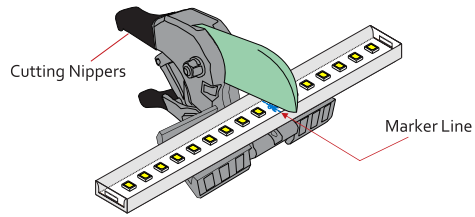

Fig. 3.1
- Place the light horizontally when cutting it, and check out the marker line at PCB surface, use only factory-recommended cutting Nippers to cut (Fig. 3.1), if use other cutter caused the internal circuit board.